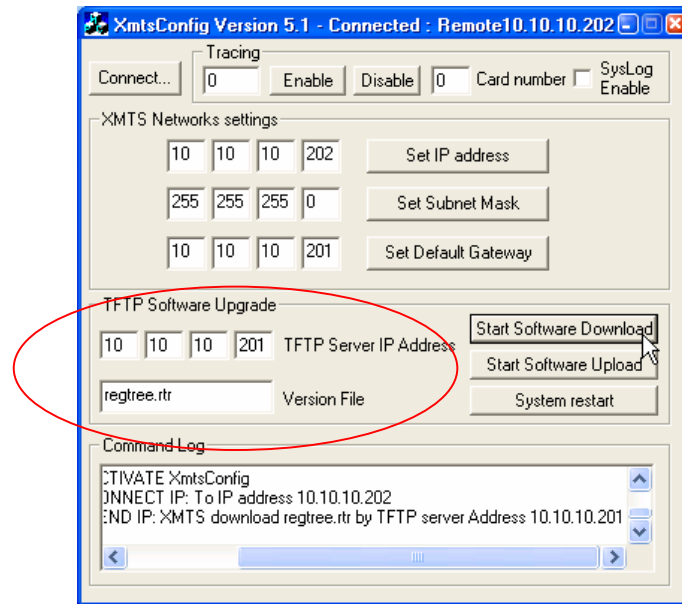

Figure 19: WMTS Download of Regtree File
1. In the main application window (Figure 19), in the TFTP Software Upgrade section
After the download command is sent to the WMTS, a message appears in the Command Log window of the WMTSConfig tool (see Figure 19). This message does NOT indicate that the download has occurred.